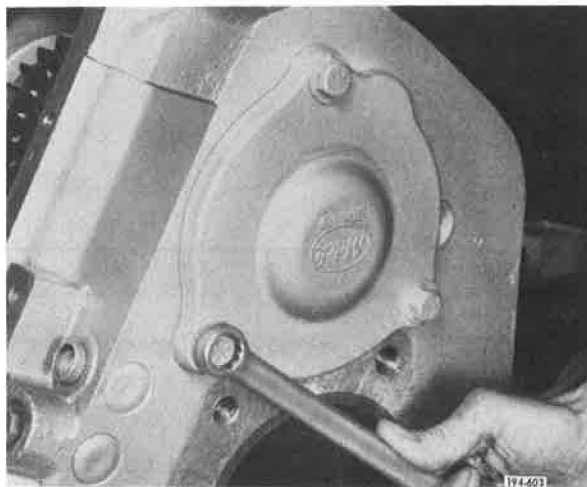

Figure 5-713. Removing Capscrews
1. Remove rear countershaft rear bearing cover capscrews. See **Figure 5-713**.